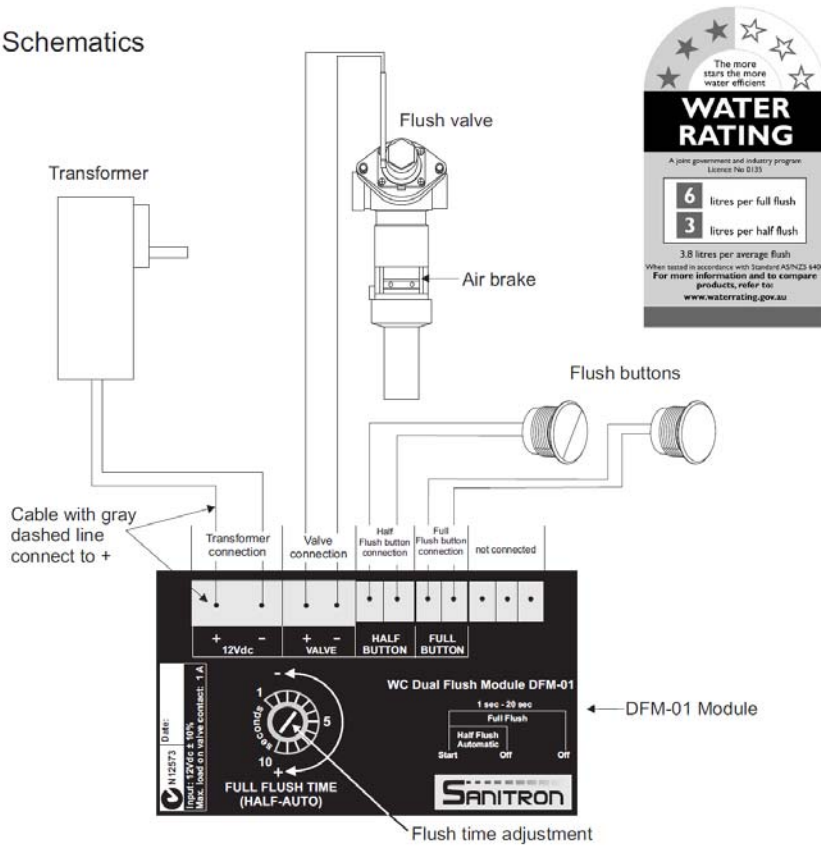

fig.5
- Connect the extension cables from the buttons and the solenoid valve to the DFM-01 module (see also fig.5).
- Plug the transformer lead into the DFM-01 module (see also fig.5).
- If too much water is discharged shorten the flush time. With a small screwdriver turn the potentiometer on the controller anti clockwise (see fig.5).
- If not enough water is discharged extend the flush time. With a small screwdriver turn the potentiometer on the controller clockwise (see fig.5).